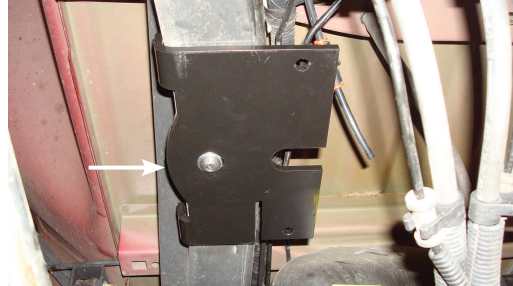

fig. 8a
1. With the new universal nut in the frame on the early model and no modification needed for the late model truck, attach the left frame mount bracket (A) onto the frame using a flat washer (M) and button-head screw (S). Mount on the frame with the flange pointing up and as tight to the frame as possible while tightening the hardware (Figs. 8a & 8b). Torque to 38 lb.-ft. (52Nm). Repeat for the right side frame mount bracket (C).